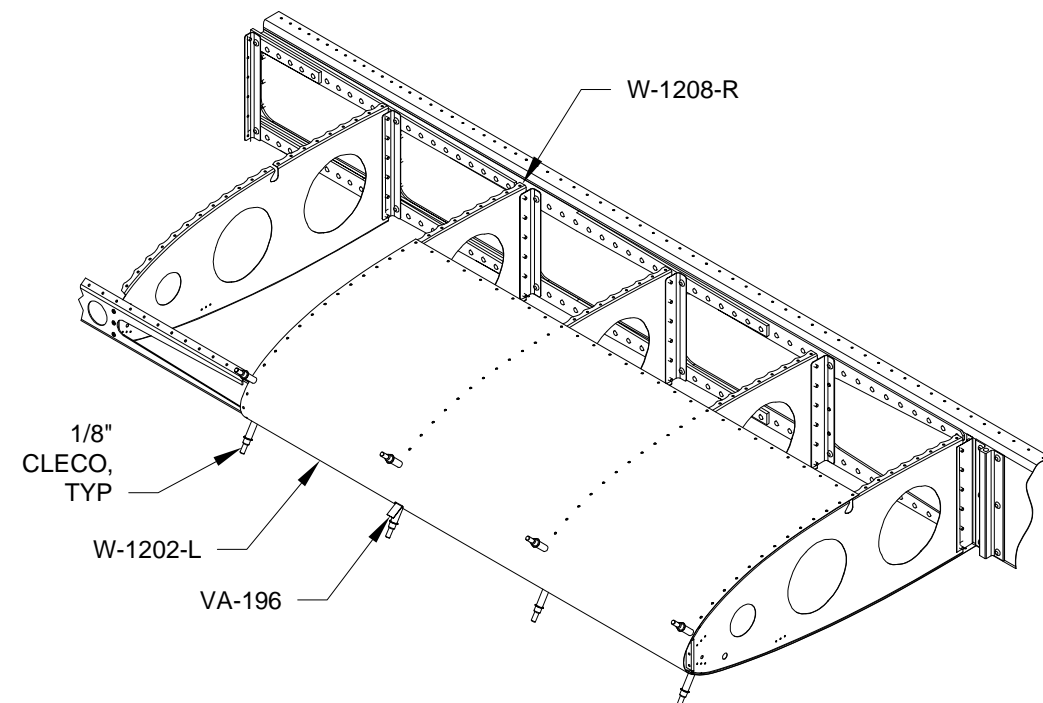

FIGURE 2: ADJUSTING THE MICRO SWITCH
Step 3: Carefully position the W-1202-L Mid Wing Skin over the W-1208-R Nose Ribs and Stall Warning Subassembly and cleco as shown in Figure 2.